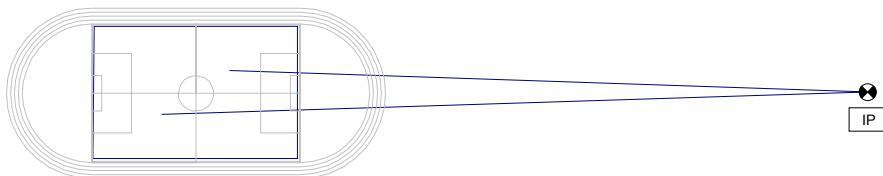
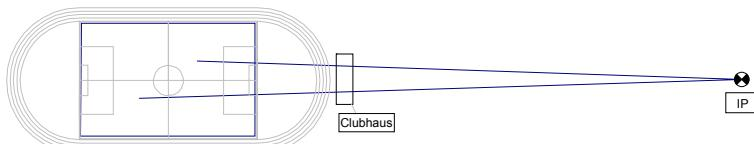

Figure 1: Calculation of the area source „soccer field“ with two sound rays
Figure 2: Soccer field with partially shielding club house
In the present example the calculation results in 44 dB(A) of free sound propagation according to figure 1, 39 dB(A) in the calculation of the situation with the club house without using the projection method according to figure 2 and 42 dB(A) with correct division resulting from the use of the projection method according to the figure 3a.